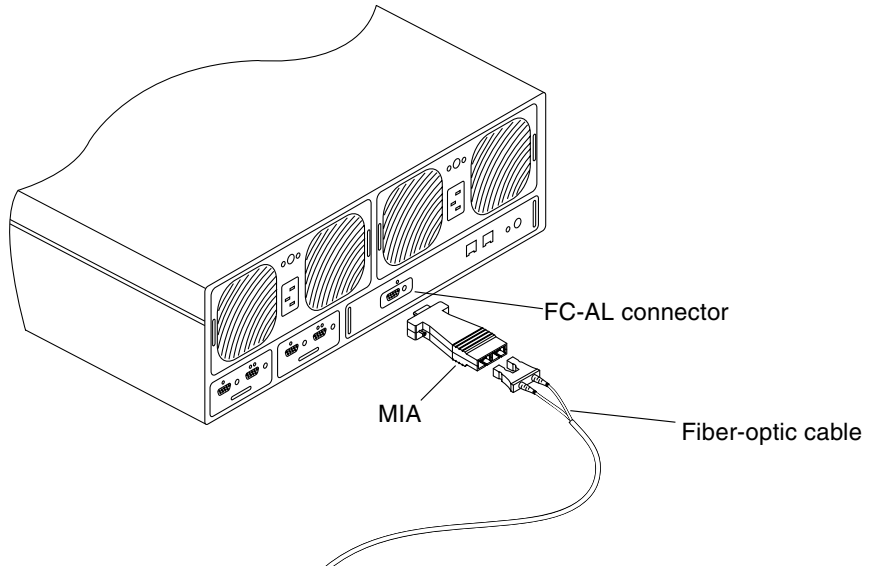

FIGURE 2-6 Connecting the Fiber-Optic Cable and MIA to the FC-AL Connector on a Sun StorEdge T3 Array
- For a Sun StorEdge T3 array, use a media interface adapter (MIA) to connect the fiber-optic cable to the FC-AL interface on the controller card (FIGURE 2-6).